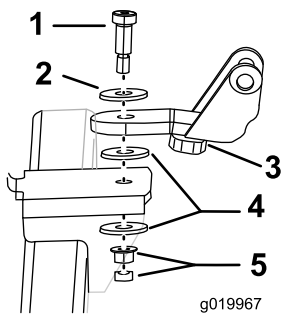

Figure 2
2. Remove and discard the fasteners securing the bracket to the attachment (Figure 2). Discard the bracket.